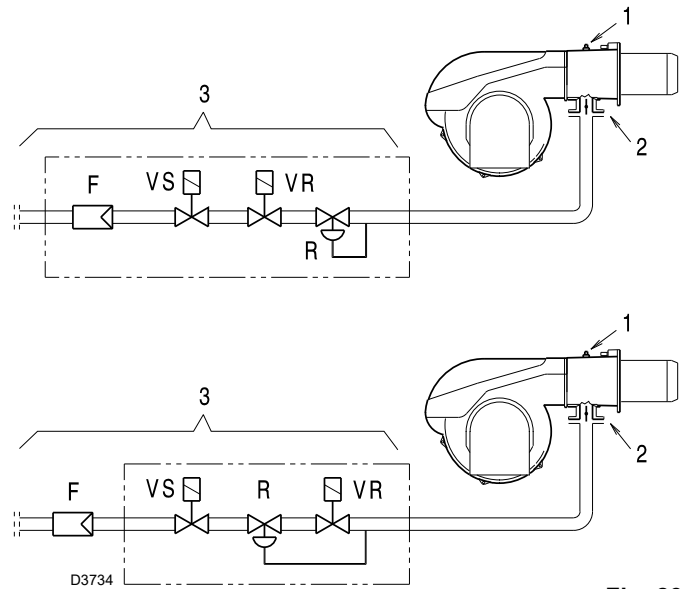

Fig. 23
Gas pressure measured at test point 1)(Fig. 23), with:
Pressure loss at gas butterfly valve 2)(Fig. 23) with maximum opening: 90°.
- subtract the combustion chamber pressure from the gas pressure measured at test point 1)(Fig. 23).
To calculate the required gas pressure at test point 1) (Fig. 23), set the maximum modulating output required from the burner operation:
- Read, on the right (column 1), the pressure at the test point 1) (Fig. 23).
pressure required at test point 1)(Fig. 23).